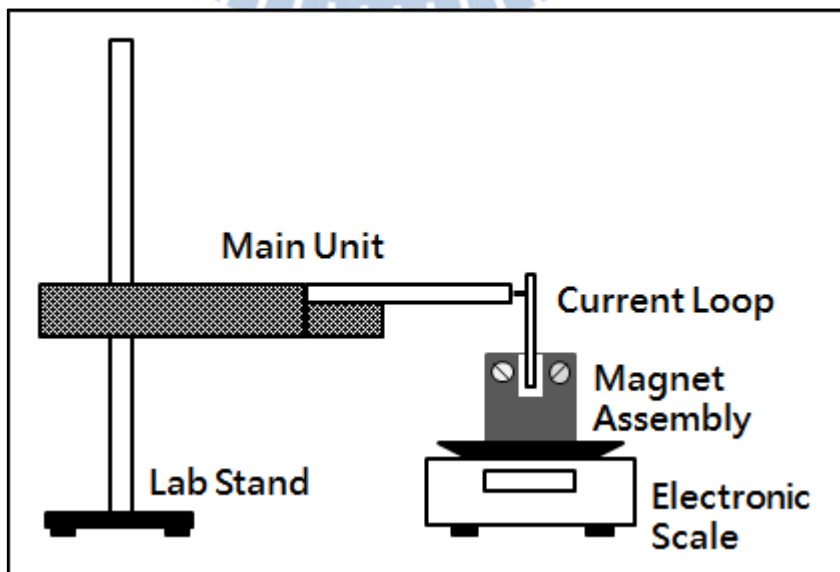

Figure 2. Experiment set-up I
1. Set up the apparatus as shown in figure 2.